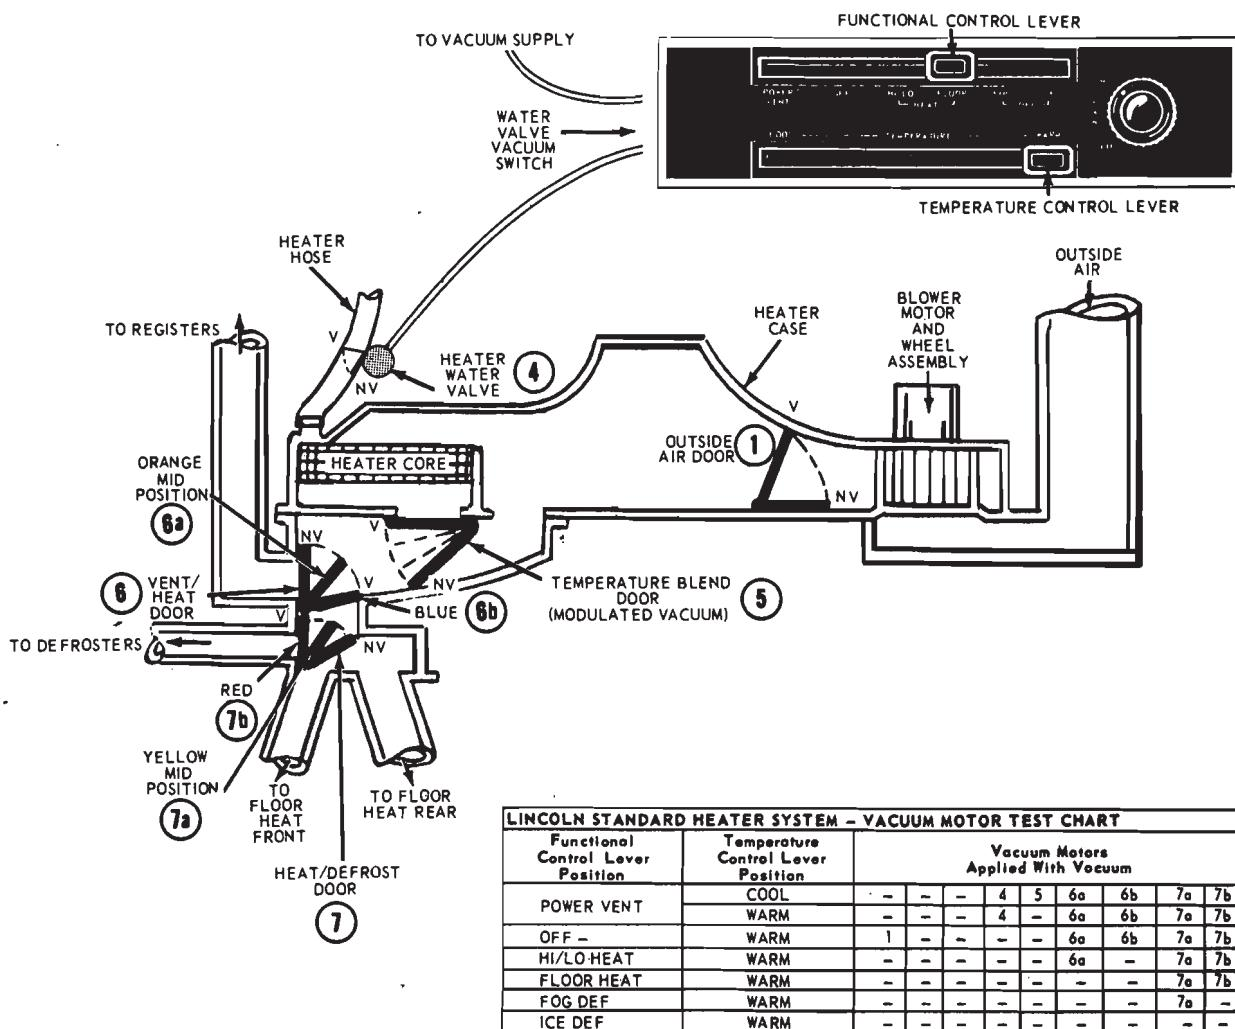
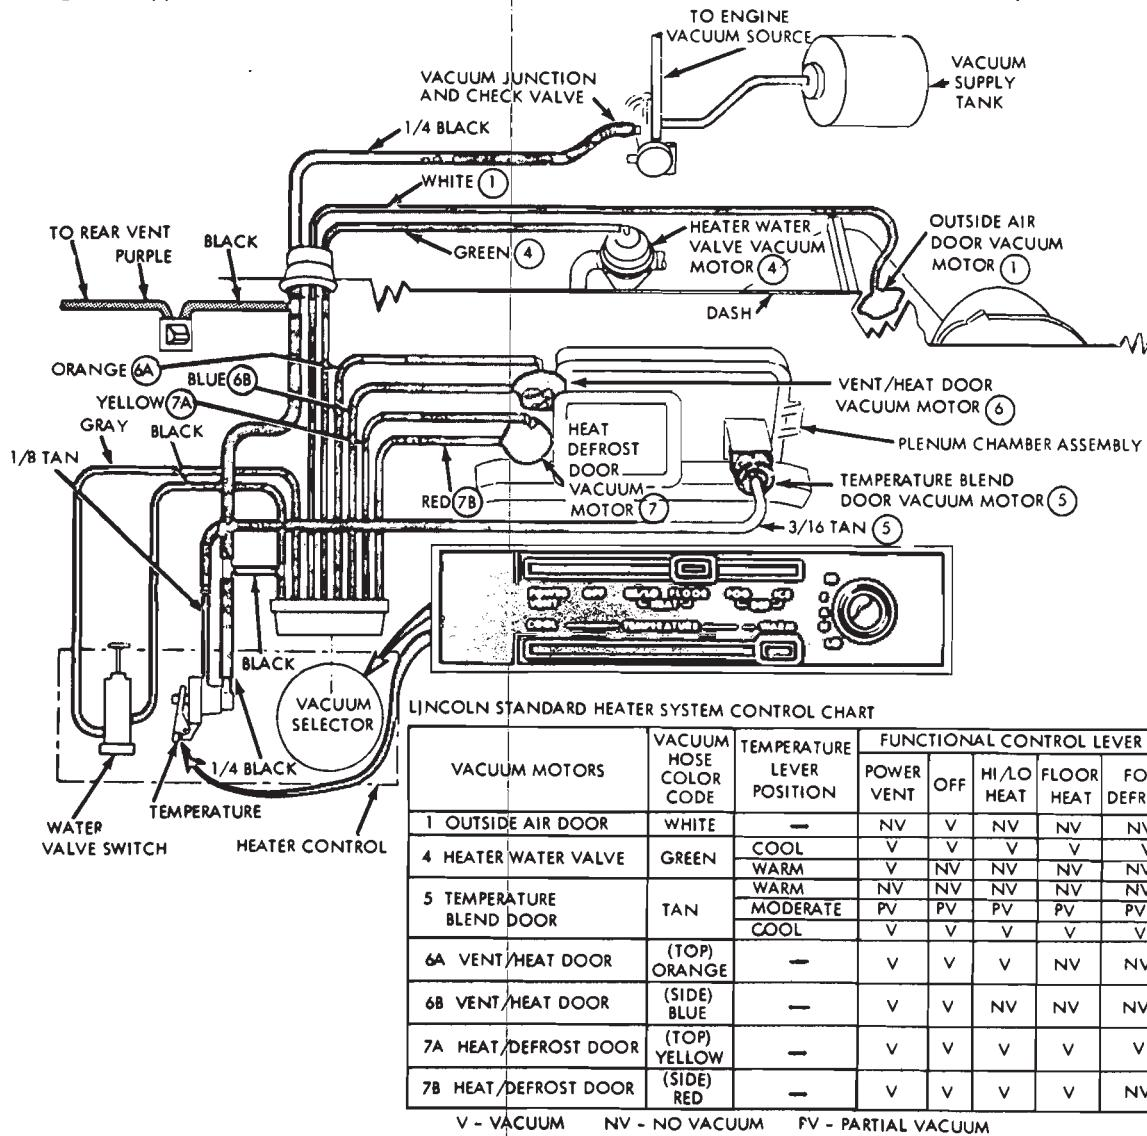

FIG. 17—Standard Heater Blend Air System Schematic—Lincoln Continental
FIG. 18—Standard Heater Control System Vacuum Diagram—Lincoln Continental
The test chart in Fig. 17 will determine which vacuum motor should be functioning with applied vacuum dur-
With the temperature control lever (lower lever) in COOL position, the Temperature Blend Door (5) restricts air through the heater core (vacuum), the Heater Water Valve (4) is closed (vacuum) and cool air is discharged through the registers, floor outlets or defrosters. As the lever is moved toward WARM the water valve vacuum switch is released and the Heater Water Valve (4) is opened (no vacuum except when the function lever is in POWER VENT position), the Temperature Blend Door (5) is modulated (partial vacuum) allowing air through the heater core to be mixed with cool air and discharged through the heater plenum outlets. In the WARM position (no vacuum), all the air passes through the heater core to provide maximum discharge air temperature. Refer to Vacuum Motor Test Chart, Fig. 17, and Vacuum Diagram, Fig. 18.
the plenum chamber restricts air to the floor outlets (vacuum) and the air is discharged through the registers (Fig. 17).